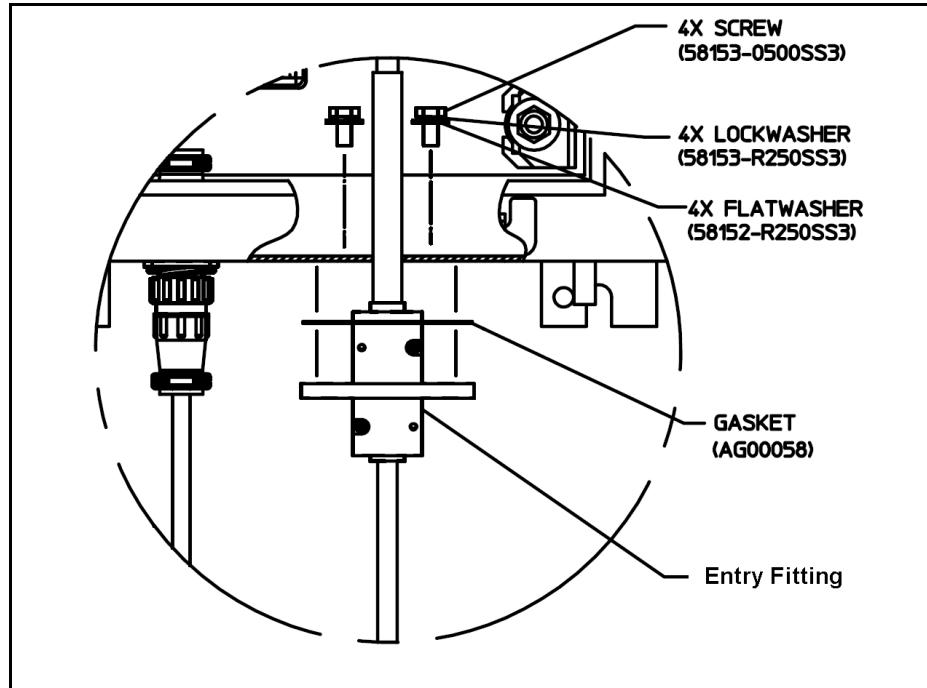

Figure 6-2: Fiber Cable Mounted in Tower Top Radio Enclosure
1. Secure the fiber optic cable to the Tower Top Enclosure as shown in Figure 6-2.